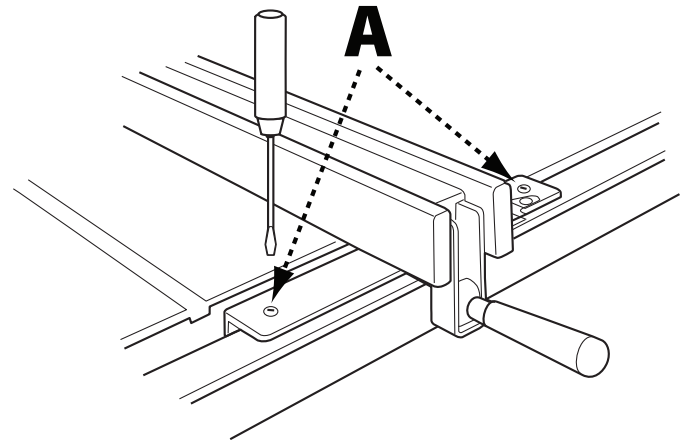

FIGURE 37
3. If the fence face is not perpendicular to the table, release the clamping lever and slightly adjust one of the slotted set screws (A) figure 37 until the fence face is perpendicular to the table.